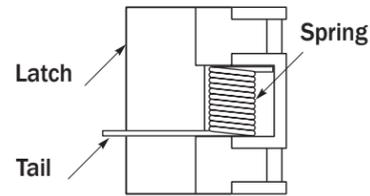

Figure 5. Correct orientation of Latch Spring
The Latch (1) is removed in the following step. Assembly Pin (8) is pushed through Latch to keep Spring (9) in place. If Assembly Pin is not available, use care when removing Latch Pivot Shaft (10) to keep Spring within Latch. If Spring comes out of Latch, reinstall Spring as shown in Figure 5.